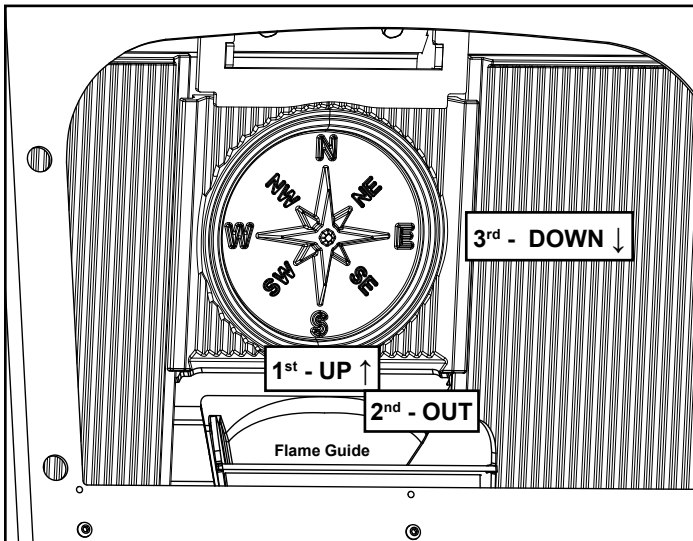
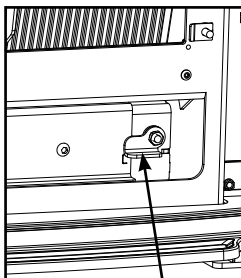

Figure 5.3
Figure 5.4
3. Remove the (4) internal pieces of cast iron Figure 5.2. See Figure 5.3 and Figure 5.4 for removal instructions.
3. Pull downward on the corners of the medallion until the top is released from the retainer that keeps the top aligned when in place. Figure 5.3.
1. Remove cleanout plate assembly by pulling up on the latch located at the bottom right corner of firebox. Figure 5.4